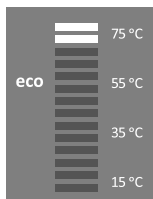
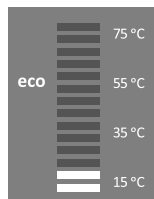

Fig. 10a: Anti-Legionella program activated
Fig. 10b: Anti-Legionella program deactivated
Press and hold (3 seconds) the [1] key to switch off the heat pump. The electronic controls switch to standby mode. Press the [1] key briefly for seven (7) times to display the current anti-Legionella function status. The function status is indicated by LED1 or LED7. If LED1 is lit, then the anti-Legionella program function is switched off (Figure 10b). If LED7 is lit, then the anti-Legionella program function is switched on (Figure 10a). Briefly press the [1] key again to change the setting. The setting is stored when the [1] key is not pressed for 5 seconds. The electronic controls return to standby mode. Press and hold (for 3 seconds) the [1] key to switch on the appliance again.